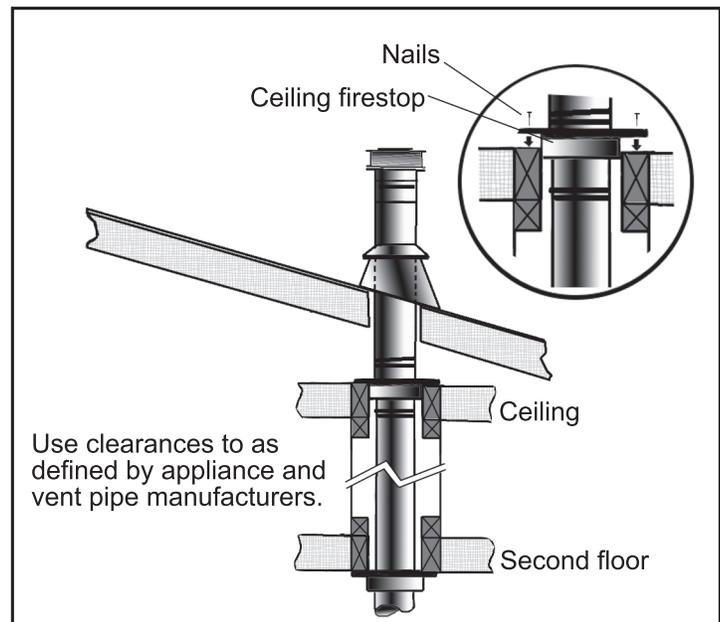

**Figure 48: Use of Wall Straps.**
- (1) If an offset is necessary in the attic to avoid obstructions, it is important to support the vent pipe every **3' (914 mm)**, to avoid excessive stress on the elbows, and possible separation. Wall straps are available for this purpose (see Figure 48).
- (2) When ever possible, use 45° degree elbows instead of 90° degree elbows. The 45° degree elbow offers less restriction to the flow of flue gases and intake air.